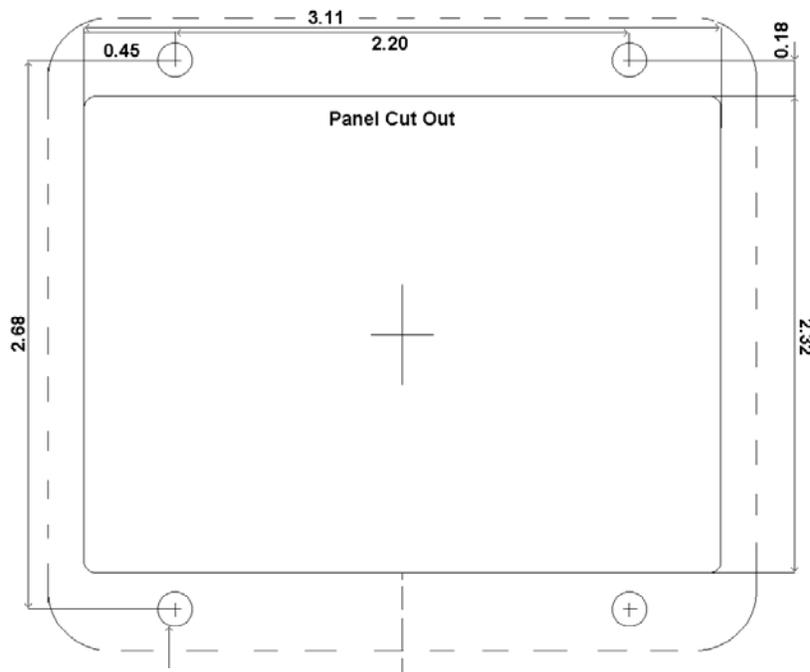

Figure 3: Flush Mount Cutout (dimensions in Inches, not actual size)
12. Cut a hole in the remote operator-mounting panel as shown in Figure 3 for flush mounting.